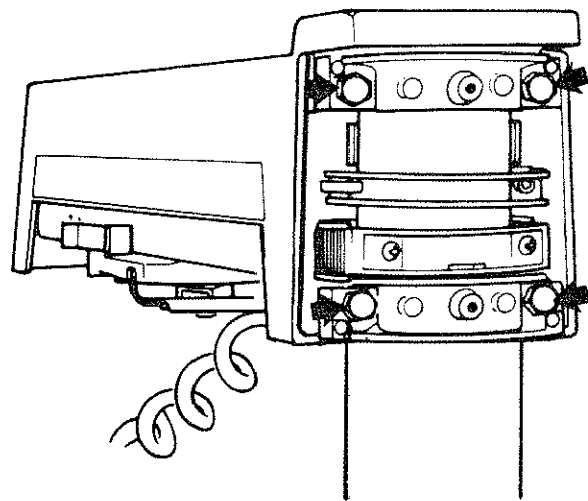

Fig. 125 - Location of Hex Head Tapping Screws
2. With a 9/16 inch wrench or socket tighten evenly the top two 3/8-16 hex head tapping screws. The bottom two screws should also be tightened evenly but not as tight as the top screws. (Figure 125)